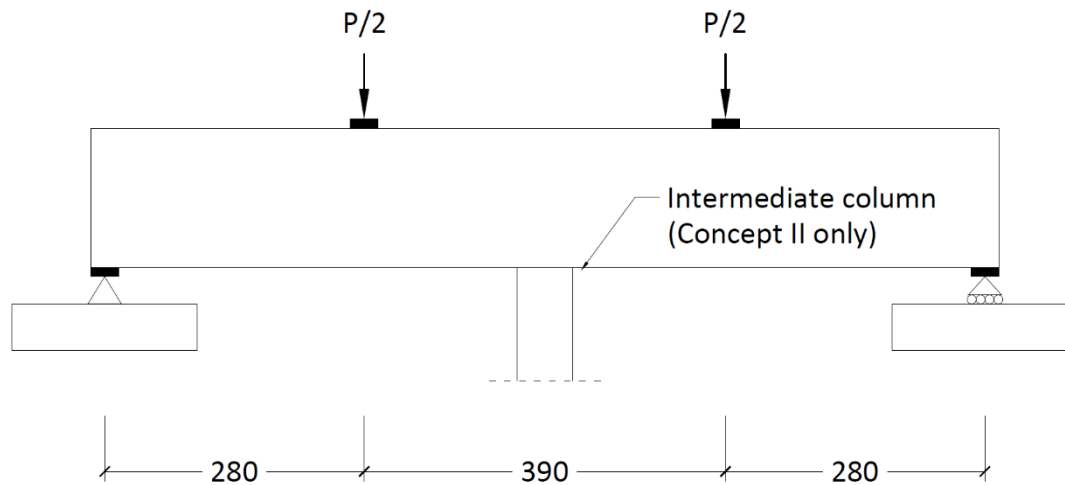

Figure 3: Concentrated Load Schematic (all dimensions in mm). Each plate is 30 mm x 100 mm.
8. Calculations must be submitted which demonstrate each bridge's performance under the load case shown in Fig. 3 in the Appendix. Calculate the load causing failure, P , for each design concept. Consider all possible failure mechanisms including all forms of plate buckling.